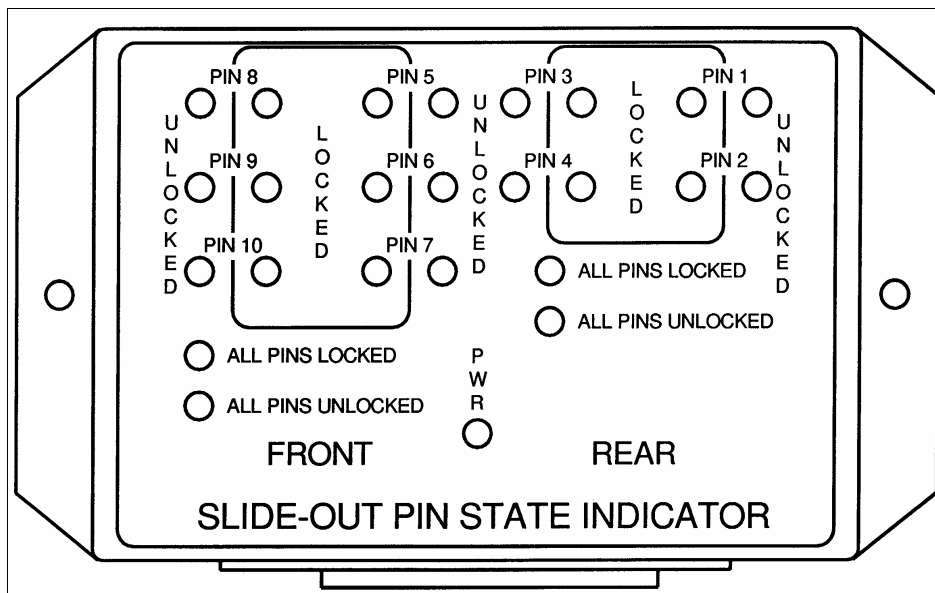

FIGURE 2
4. Verify if all the pins are unlocked. To do so, check the lights on the slide-out pin state indicator module with the ignition in the "on" position (see figure 2). The "ALL PINS UNLOCKED" red light must be "ON", on both slide-out. If one or both lights are off, verify which pins are not unlocked (red lights outside both rectangles) and go back to step number 3 to manually unlock all the pins until both lights "ALL PINS UNLOCKED" go "on".. (refer to slide-out operation manual).